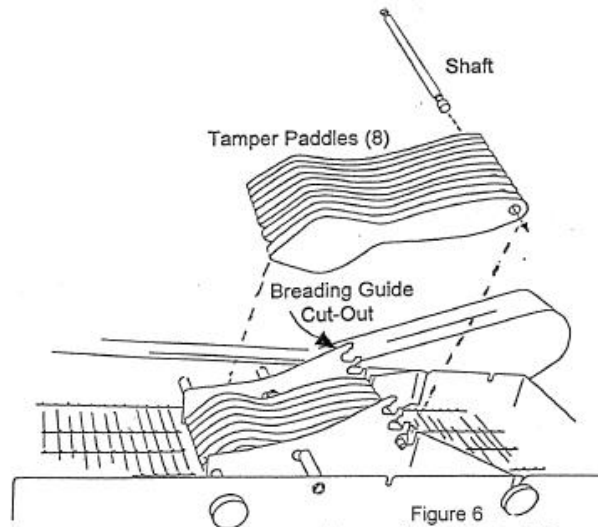

Figure 6
6.2.4 Tamper Paddles Installation (See Figure 6)
Align the tamper paddles and place the shaft through the holes in the paddles. Place the shaft ends into the cut-out of the breading guides as shown in **Figure 6**.
The (8) tamper paddles, (see **Figure 6**), apply pressure to the breading bed to help adhere breading to the product as it passes through. Some products may be better covered if one or two of these paddles are removed.